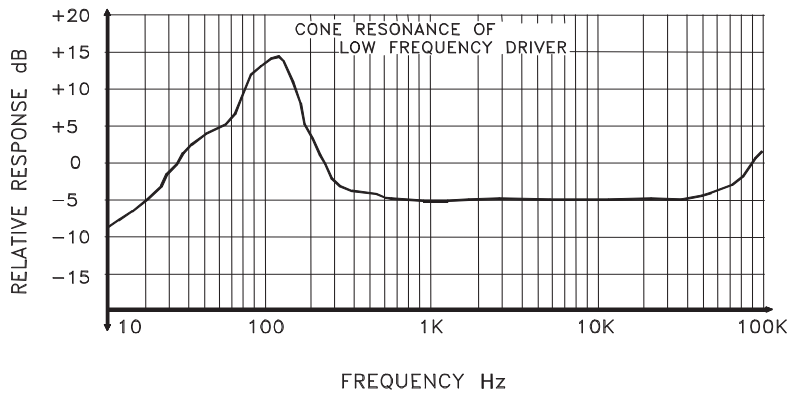

FIG 8. TESTING SPEAKER SYSTEMS AND IMPEDANCE NETWORKS.
- A. Connect equipment as shown in Test Set-Up in FIG. 8 for frequency response measurement except that the signal input to the speaker or impedance network is monitored. The oscilloscope may be used to verify that this instrument is not in a clipping condition.
- D. In speaker testing, a pronounced increase of voltage will occur at some low frequency. This is the resonance frequency of the speaker systems(FIG. 8). The speaker enclosure will modify the results obtained from the same speaker without an enclosure. A properly designed enclosure will produce a small peak on each side of the peak obtained without an enclosure. the enclosure designer can use the response characteristics to evaluate the effects of varying port sizes, damping materials and other basic enclosure factors.
- 1) Connect a variable resistor in series with the impedance network as shown in FIG. 8